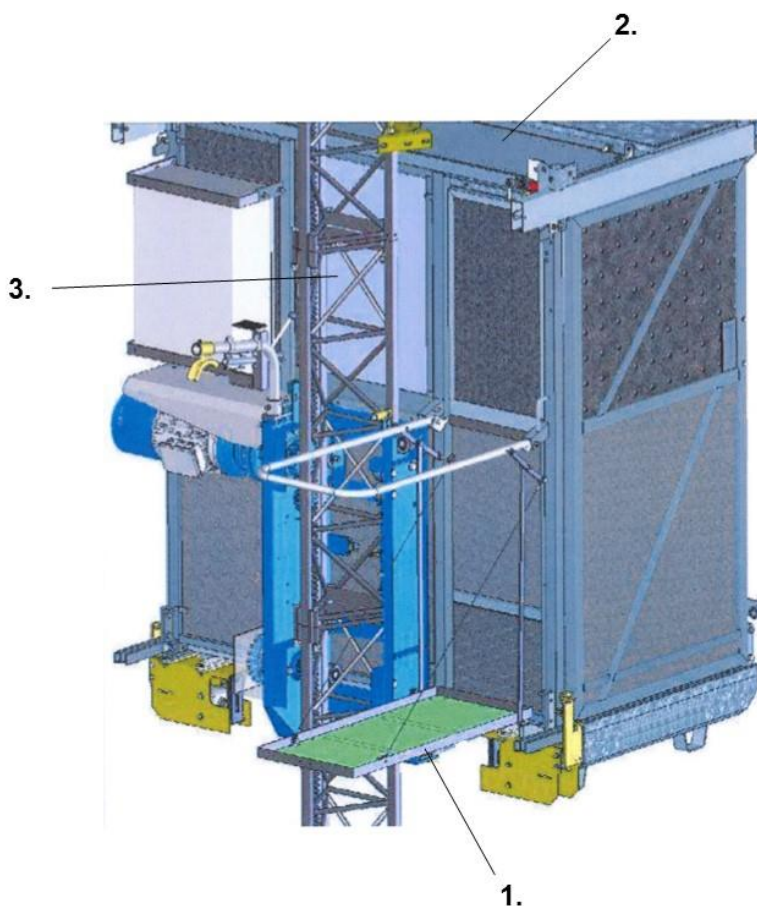

Figure 8.3
The guards are shown in figure 8.3; the movable bar (1) is the upper guard of platform used for assembling the wall anchors, the roof hatch (2), and the mast guard (3).